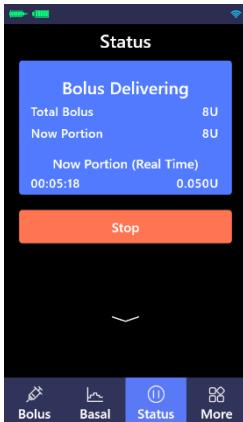

Figure A.5.4
(4) After the insulin pump controller sends the delivery instruction to the insulin pump, the insulin pump will "beep" and start to perform bolus with delivery progress displayed in the status interface (as shown in Figure A.5.4).
Click "Stop" in the status interface(as shown in Figure A.5.4), then click "ACT" in the pop-up confirmation interface to stop or click "ESC" to continue.